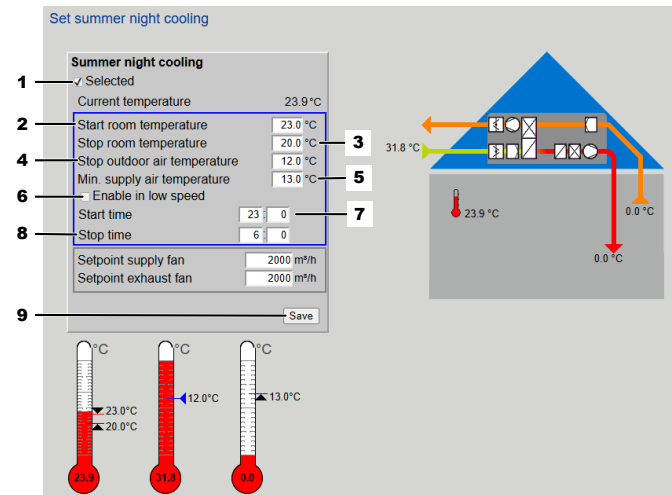

Fig. 34: Night purge
In the 'Set summer night purge' screen ( Fig. 34 ), summer night purge can be activated and the time period for activating summer night purge can be set. With summer night purge, the rooms are cooled with outdoor air, outside the set operating times. Night purge is activated as soon as all of the required settings have been made.
- ▶ Tick the checkbox ( Fig. 34 /1) to activate night purge.
- ▶ Enter the room air start temperature for night purge ('Start room temp.', Fig. 34 /2).
- ▶ Enter the room air end temperature for night purge ('Stop room temp.', Fig. 34 /3).
- ▶ Enter the outdoor air end temperature for night purge ( Fig. 34 /4).
6. ▶ Enter the outdoor air end temperature for night purge ( Fig. 34 /5).
7. ▶ Tick the checkbox ( Fig. 34 /6) to activate night purge even if the system is only running at low speed.
8. ▶ Enter the night purge start time ( Fig. 34 /7).
9. ▶ Enter the night purge end time ('Stop time', Fig. 34 /8).
- 10.▶ Save the settings you have made using the button ( Fig. 34 /9).